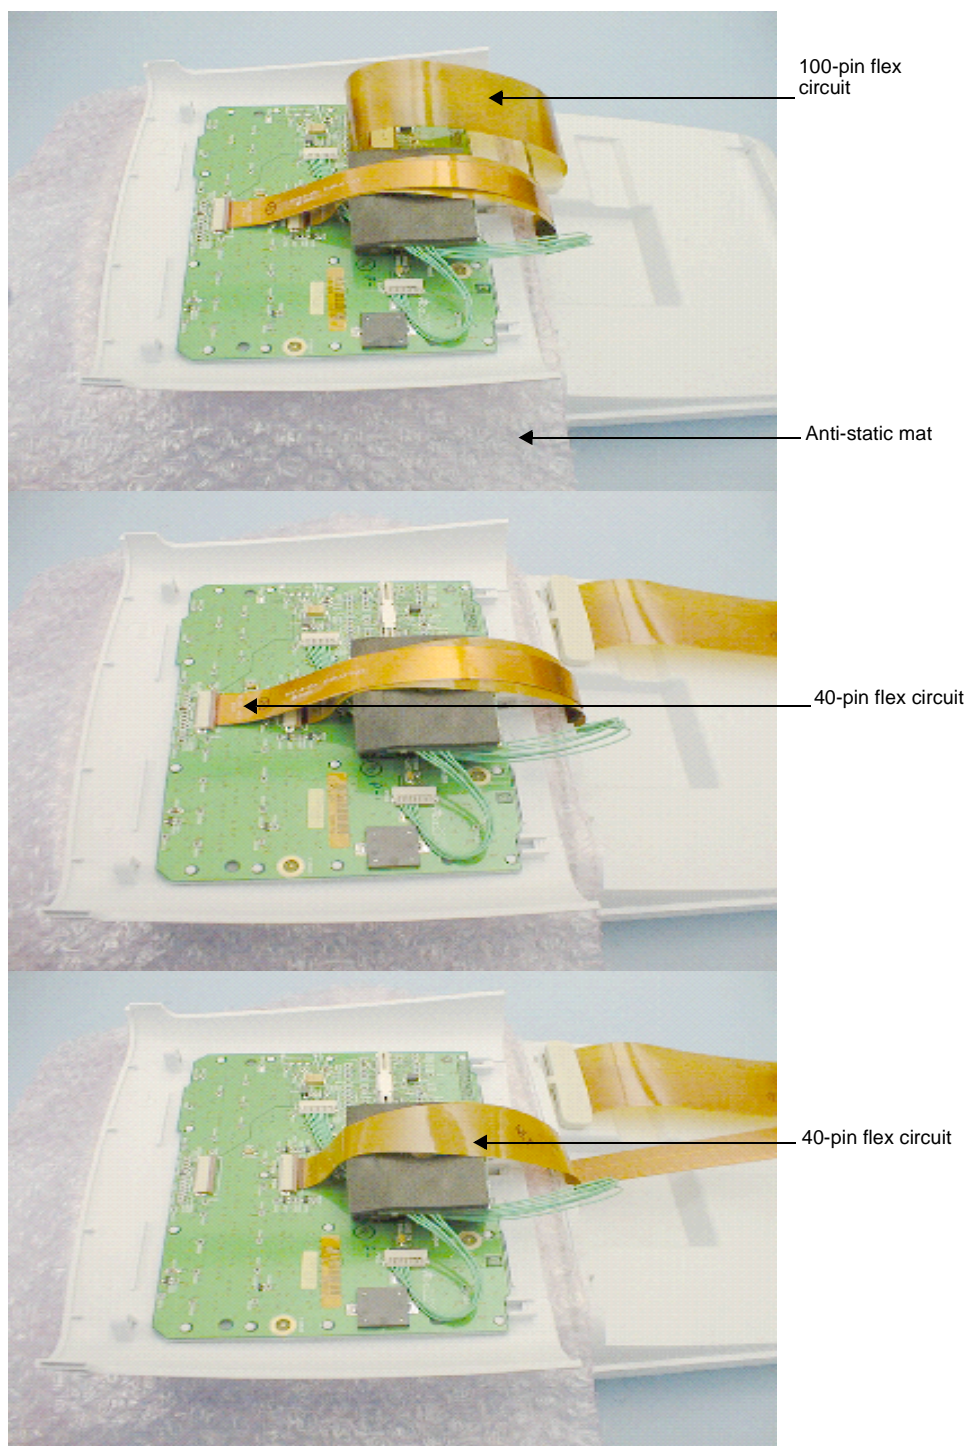

Figure 7.2 Disconnecting the Display Wire Harness and Flex Circuits
3. Insert an anti-static mat between the Control Panel and the Display to prevent damaging the Display (Figure 7.2).
6. Disconnect the Display Wire Harness and flex circuits from the Control Panel (Figure 7.2).